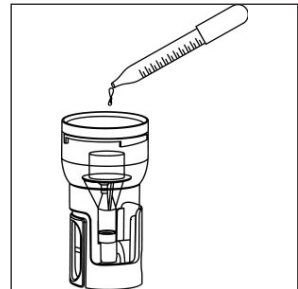

Figure 3
7. Assemble clean nebulizer parts by placing baffle down in medication cup. Add prescribed medication into the medication cup (**Fig. 3**). Holding cup stationary, screw on nebulizer cap (**Fig 4**).